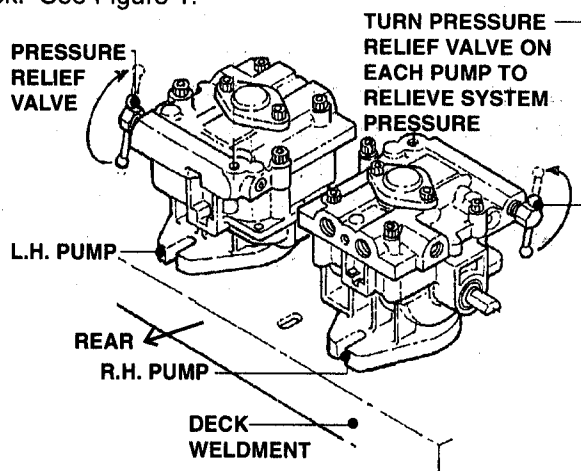

FIGURE 2
- B. Look at the rear of the deck weldment and locate the two hydraulic pumps shown in Figure 2.